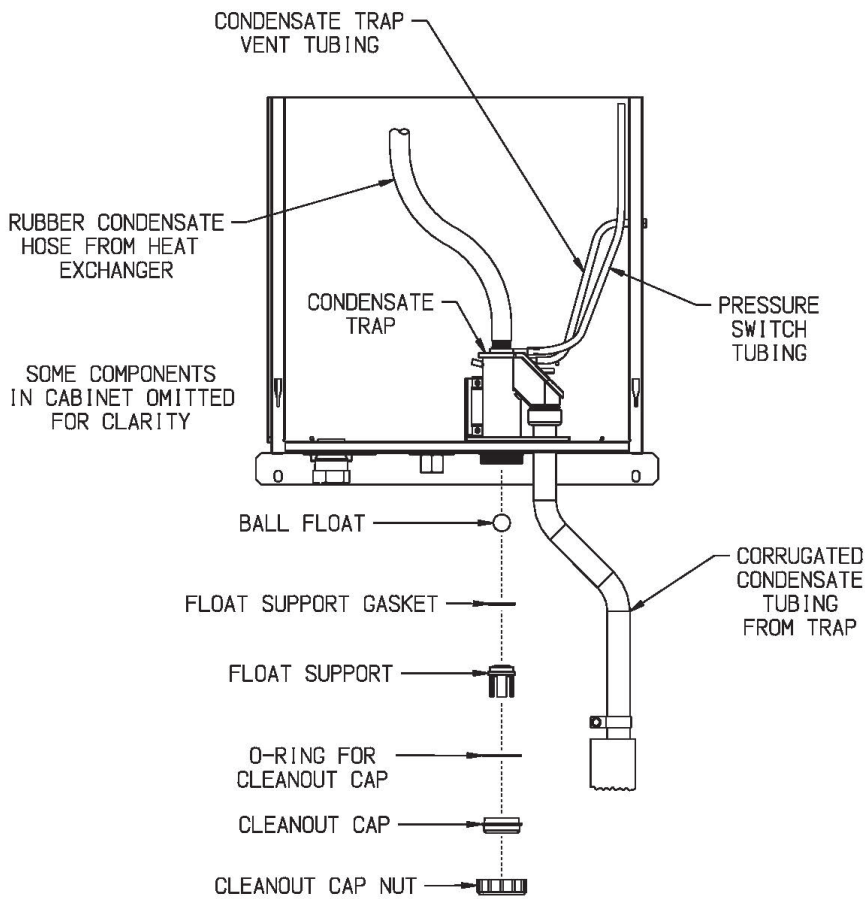

Figure 13.4: Condensate Trap Exploded Parts View
- p. **Inspect and clean the condensate trap.** Place a bucket under the condensate cleanout cap on the bottom of the boiler (see Figure 2.1) to catch water in the trap as well as the ball and ball support. Unscrew the cap, being careful not to lose the ball or ball support. Flush any debris found in the trap with water – do not use other cleaning agents. Reassemble the trap as shown in Figure 13.4.